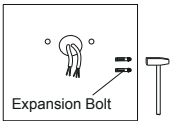

Figure 34
Step 2: Knock the expansion bolts into the wall(Figure 34);